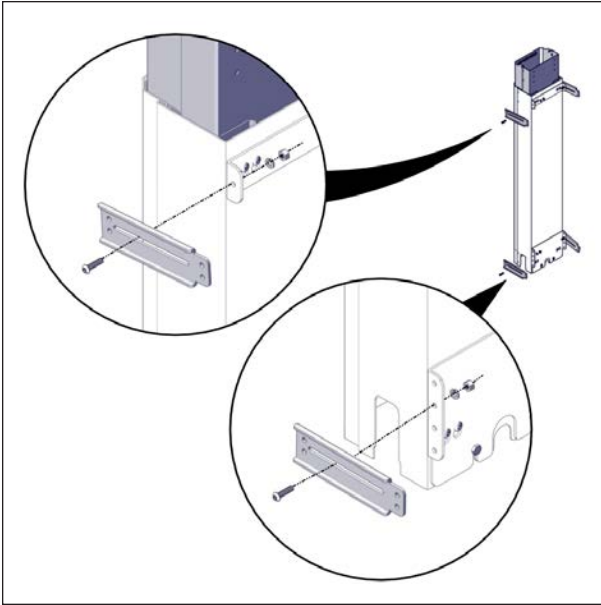

FIGURE 73: MOUNT BRACKET ARM INSTALLATION
3. Install the top and bottom mount bracket arms on one of the sleeves, see Figure 73.